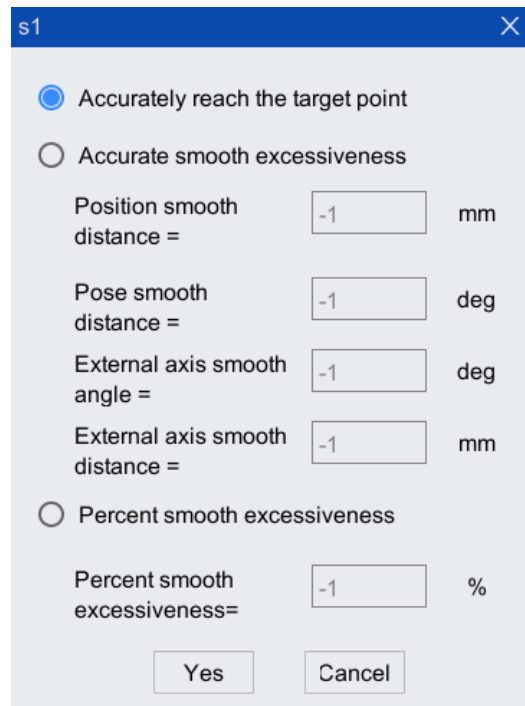

Figure 7-35 Parameter s configuration interface
Step4. Click the icon  after the parameter [s], and the interface shown in Figure 7-35 will pop up. After completing the parameter configuration, click <Yes>. The parameter descriptions are shown in Table 7-18.